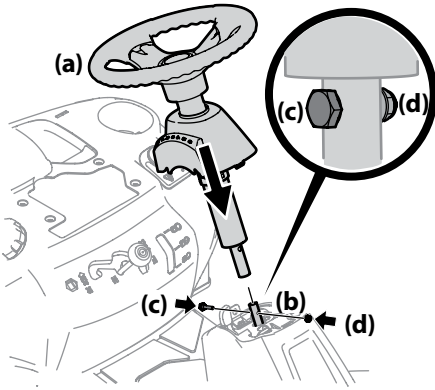

Figure 2-3
- Lower the steering wheel assembly (a) onto the lower steering shaft (b) and secure with the shoulder bolt (c) and lock nut (d) previously removed. See Figure 2-3.